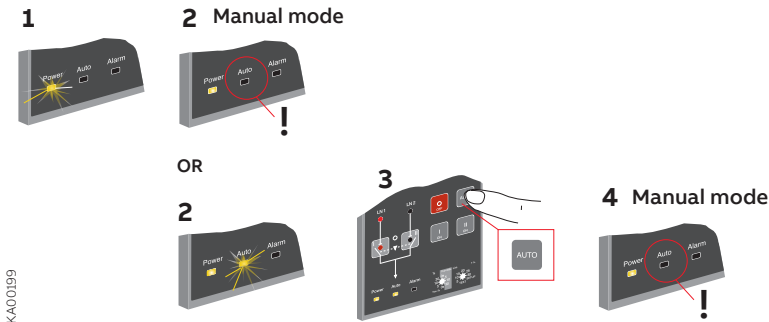

Figure 6.1 Selecting the automatic control unit OMD_ to Manual Mode
- a Make sure that the power LED is ON, see the Figure 6.1/①.
- b If the Auto LED is OFF /②, the automatic control unit is in Manual Mode.
- c If the Auto LED is ON, push the Auto key once /③. EI LED The Auto LED switches to OFF and the automatic control unit OMD_ is in Manual Mode /④.